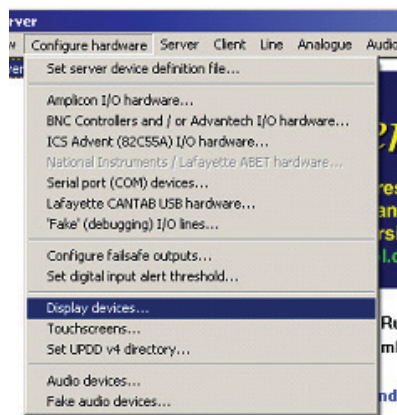

Figure 12
5. Select the *Display devices* option as shown in Figure 12.